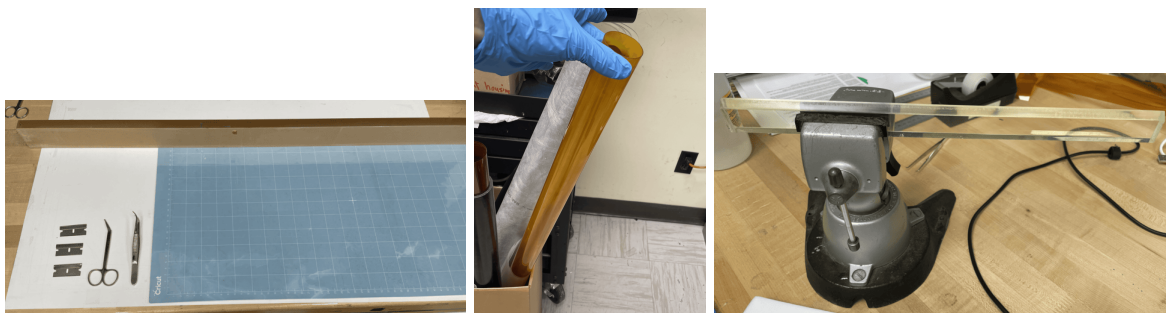
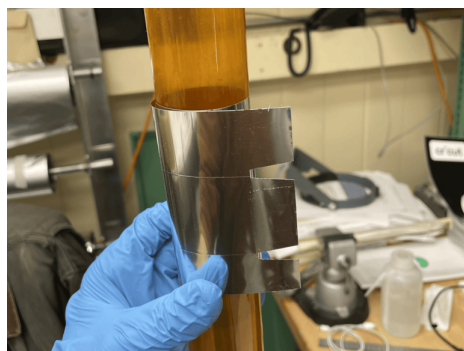

Figure 1: In the leftmost image: razor blades, scissors, tweezers, Cricut mat; acrylic block at the top. Middle image: orange tube. Rightmost image: creaser
Figure 8: The mylar rolled onto the orange tube
- orange plastic tube (as in Fig 1)
- acrylic block (as in Fig 1)
- creaser (as in Fig 1)
STEP SEVEN: Get the orange tube as seen in Fig 1, clean it with alcohol. Then roll the mylar off of the mat onto the tube as seen in Fig 8 – this prevents stretching the mylar if you were to just try to pull it off with your hands. Be extremely careful with this step as it is very easy to fold the mylar accidentally and crease it. If this happens, throw it out and retry. For the smaller cutouts, you can slide a razor blade under it to remove it, no need to roll it off. Still don't pull it off by hand.
STEP EIGHT: Use the creaser as in Fig 1 to crease along the score line. Then align the crease on the scintillator and make the next crease against the next edge of the scintillator while keeping the mylar as flat to the scintillator as possible. Then deepen the crease against the creaser tool. Repeat this for all edges.